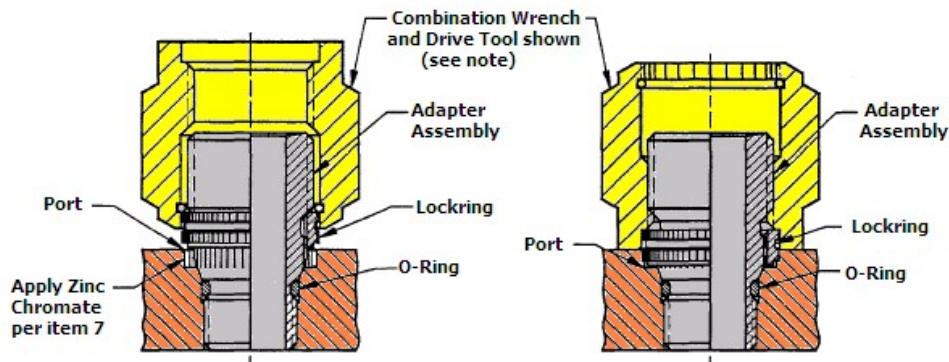

FIGURE 2
6. Using the applicable Combination Wrench or Wrench, engage the serrations of the tool with the external serrations of the adapter locking per figure 2. Place a torque wrench of the proper size over the hex of the wrench and apply a torque equal to the minimum value specified by the applicable size in Table I or II on the following page. Note the relationship of the serration of the locking with respect to the pre-broached serrations in the port. If they match, proceed to step 7. If the serrations do not match, continue to slowly torque the adapter toward the maximum value allowed in Table I and II until the serrations of the locking match the port serrations. This will normally take between 3° and 8° of turning and the maximum torque value need not be reached if the serrations align themselves prior to that value. Do not exceed the maximum torque values.